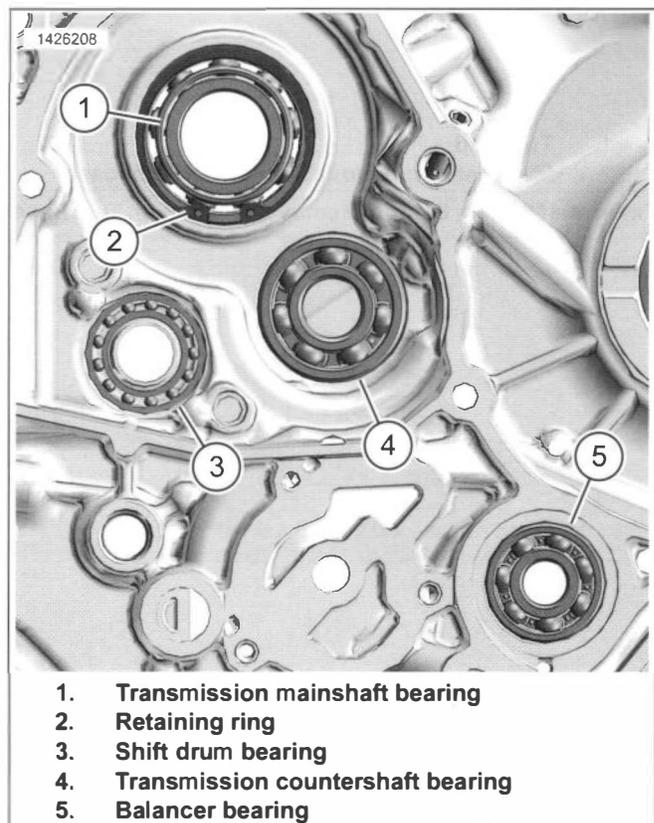

Figure 4-104. Left Crankcase Bearing Replacement
- 1. See Figure 4-104. Remove balancer bearing (5).
- 2. Discard bearing (5).
1. See Figure 4-104. Install **new** bearing.
- b. Spread clean engine oil on outside diameter of **new** bearing (5).
- c. Install balancer bearing (5).
1. See Figure 4-104. Remove retaining ring (2).
2. Remove transmission mainshaft bearing (1).
3. Discard bearing (1).
- b. Spread clean engine oil on outside diameter of **new** bearing (1).
- c. Install transmission mainshaft bearing (1).
2. Install retaining ring (2).
1. See Figure 4-104. Remove transmission countershaft bearing (4).
2. Discard bearing (4).
- b. Spread clean engine oil on outside diameter of **new** bearing (4).
- c. Install transmission countershaft bearing (4).
1. See Figure 4-104. Remove shift drum bearing (3) using a suitable blind hole puller.
2. Discard bearing (3).
- b. Spread clean engine oil on outside diameter of **new** bearing (3).
- c. Install shift drum bearing (3).